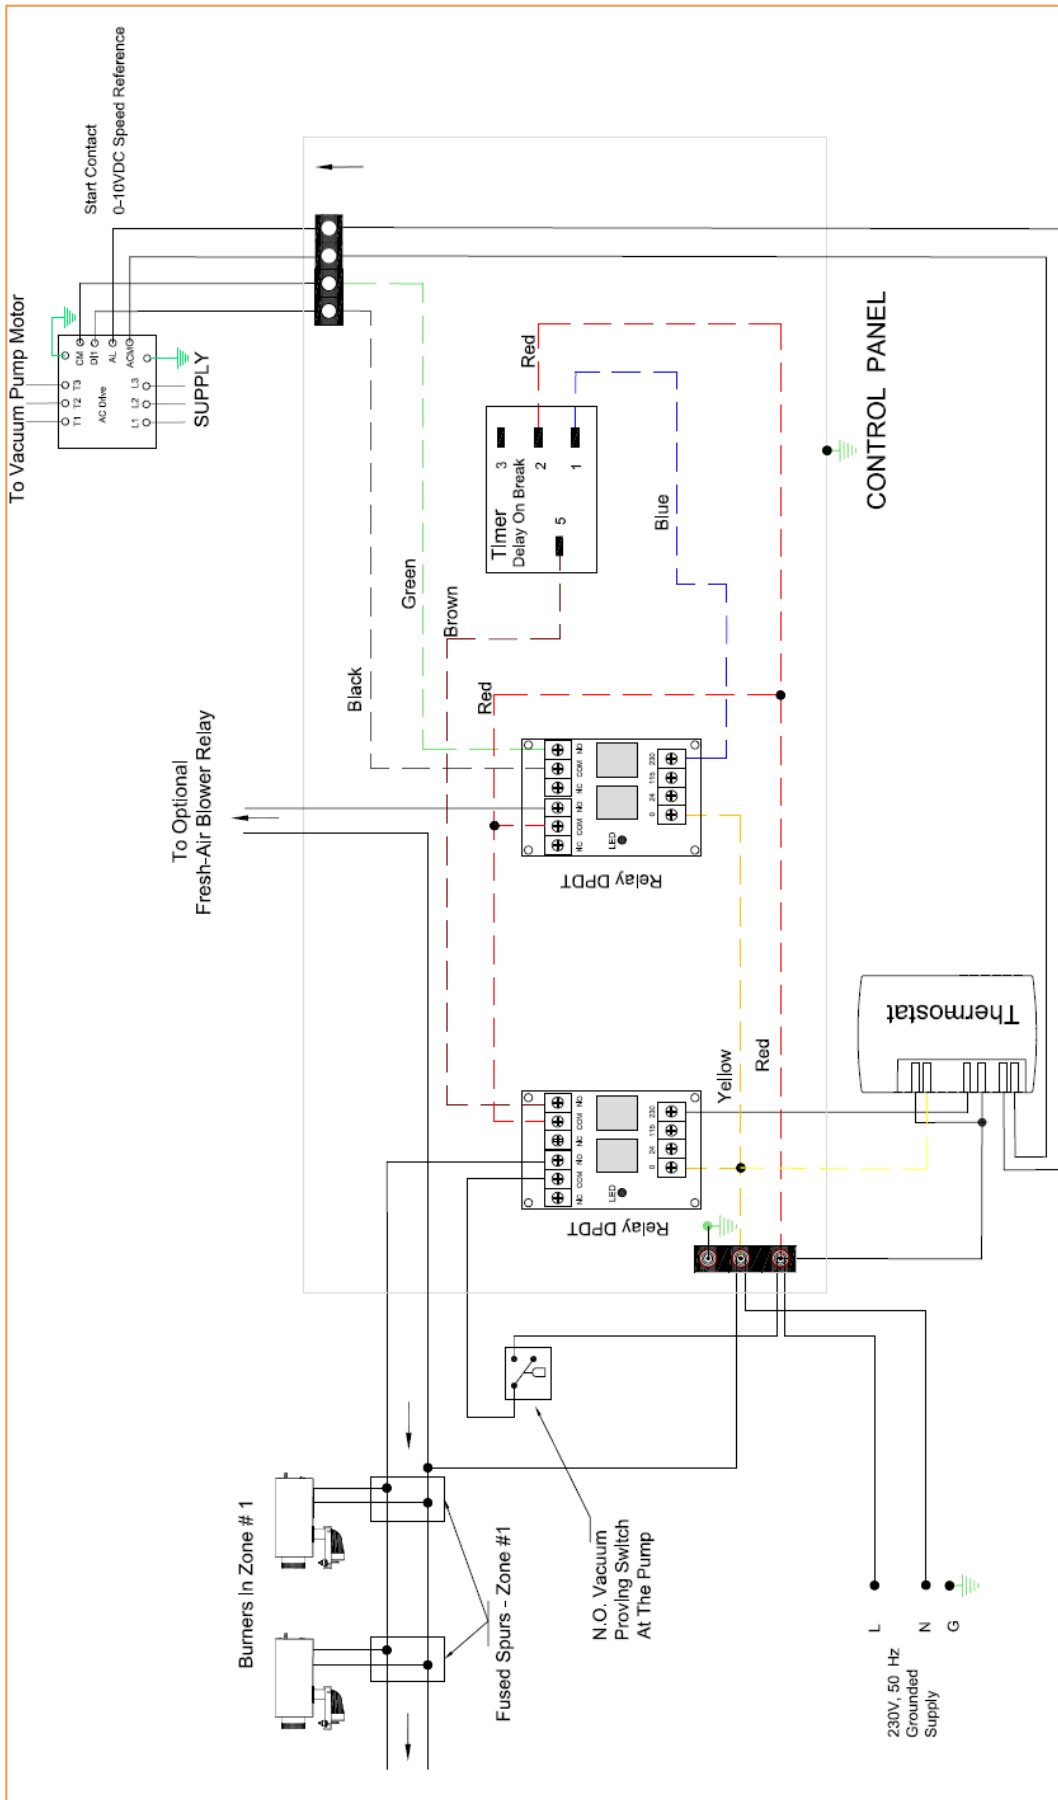

Figure 40: Control Panel Wiring Diagram (Optional)
Figure 40 shows wiring diagram of controlling one system (one vacuum pump) with a modulating thermostat.
1. Mount the Vacuum Switch and make the connections to the Blower as required. (See Figure 40 for details)